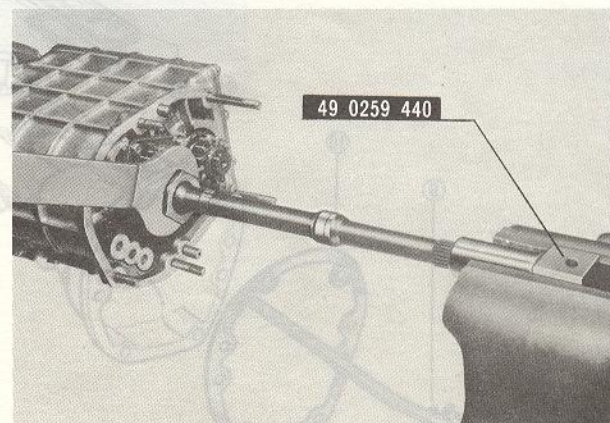

Fig. 7-11 Removing lock nut
20. Straighten the tab of the lock washer, hold the rear end of the main shaft with the **holder** (Part No. 49 0259 440) as shown in Fig. 7-11 and loosen the main shaft lock nut. Slide the reverse gear off the rear of the main shaft, and remove the key.